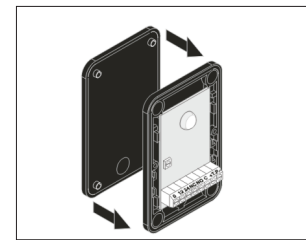

Fig. 5
- 5 - Assemble the seal and the photocells (Fig. 5);